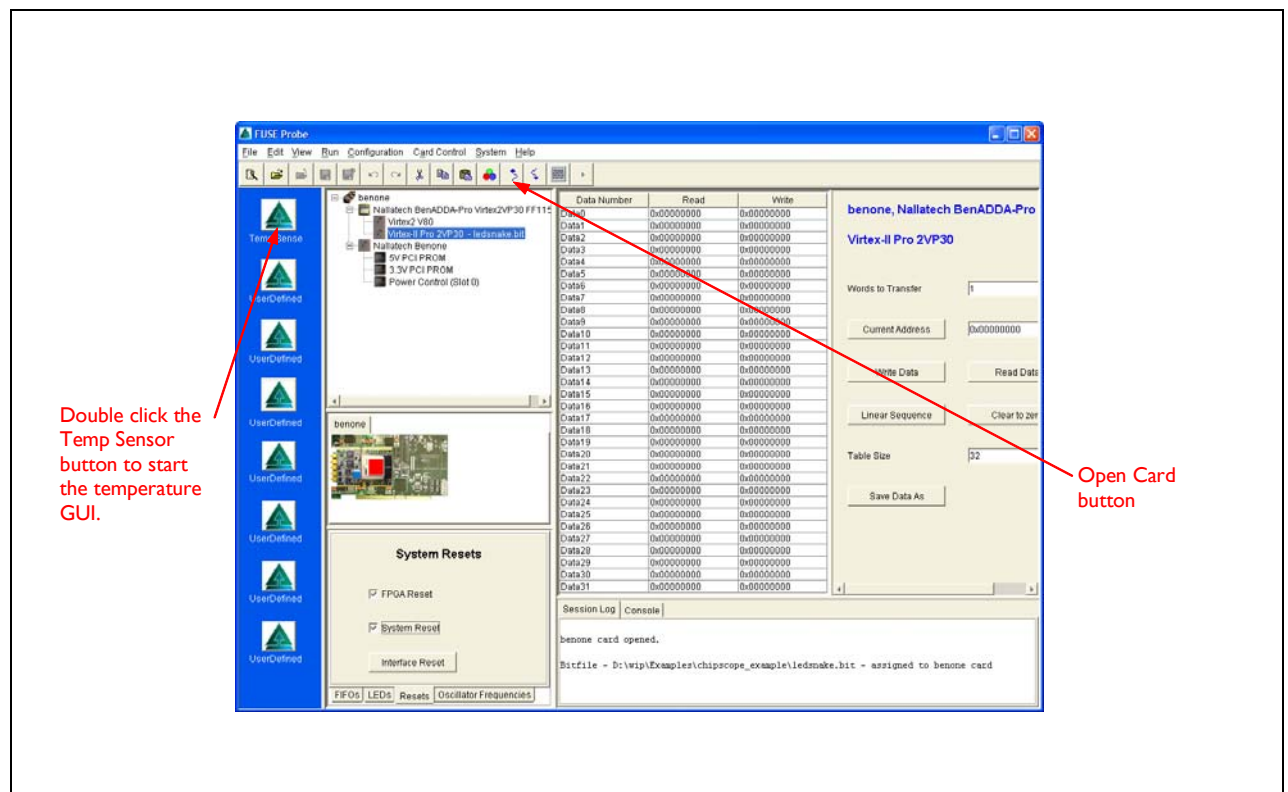

Figure 51: FUSE Probe showing Temp Sensor Plug-in
- I. To open the FUSE Probe Tool either click on the Nallatech Icon on the taskbar or go to the 'Start' menu and then click on 'Progams->FUSE->Software->FUSE Probe'. This will launch the FUSE Probe Tool shown in **Figure 51** on page 87.